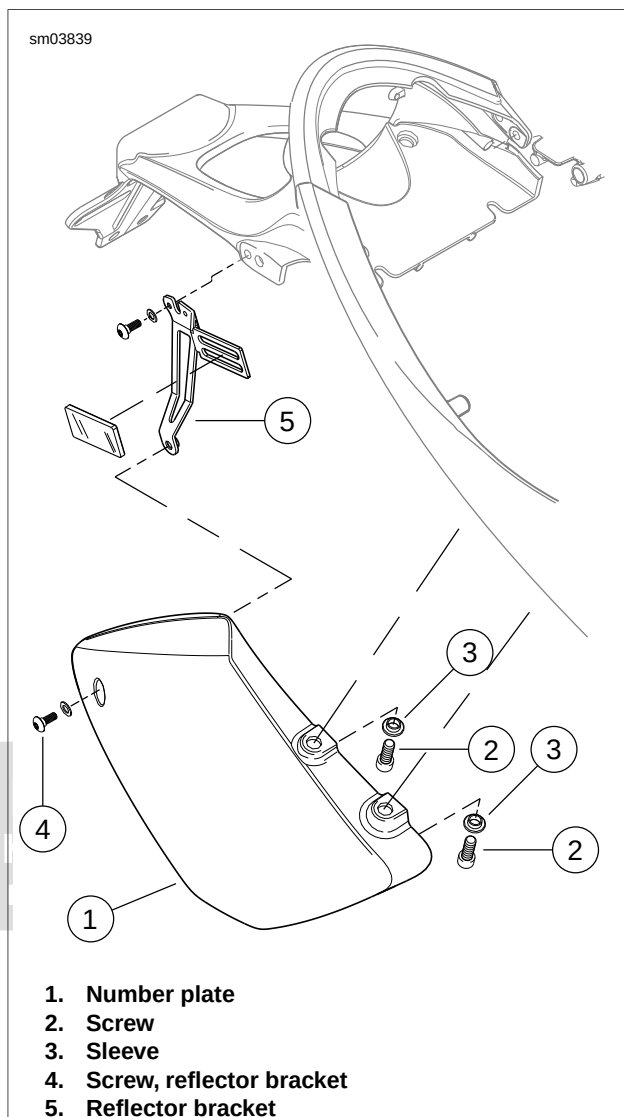

Figure 2-186. Side Number Plates
1. See Figure 2-186. Remove screw attaching the number plate to the reflector bracket (5).
- See Figure 2-186. When removing and installing the number plate screws (2) from the left and right tail sections, place a shop rag over the swingarm to prevent cosmetic damage.
2. Remove the screws (2) and sleeves (3) attaching the number plates (1) to the left and right tail sections and remove number plates.
1. See Figure 2-186. Install number plates (1) to left and right tail sections using screws (2) and sleeves (3) and leave loose.
2. Install screw (4) attaching the number plate (1) to the reflector bracket (5) and leave loose.
3. Tighten the number plate screws (2) to 18-20 ft-lbs (24-27 Nm).
4. Tighten the number plate to reflector bracket screw (4) to 12-36 **in-lbs** (1.4-4 Nm).